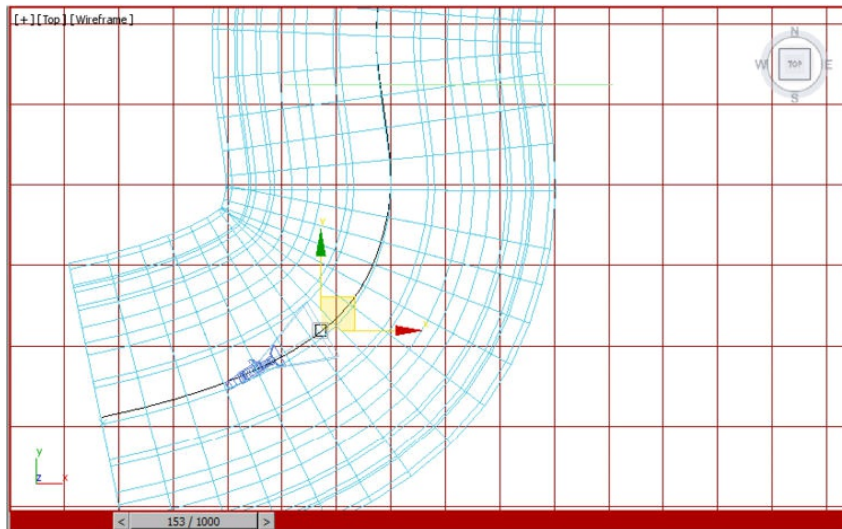

Figure 14-31 The position of the *Camera001.Target* at frame 153
13. Drag the time slider to frame 153 and move *Camera001.Target* along the path, as shown in Figure 14-31. To move the time slider to a particular frame, you can also enter the frame number in the Current Frame (Go to frame) spinner.